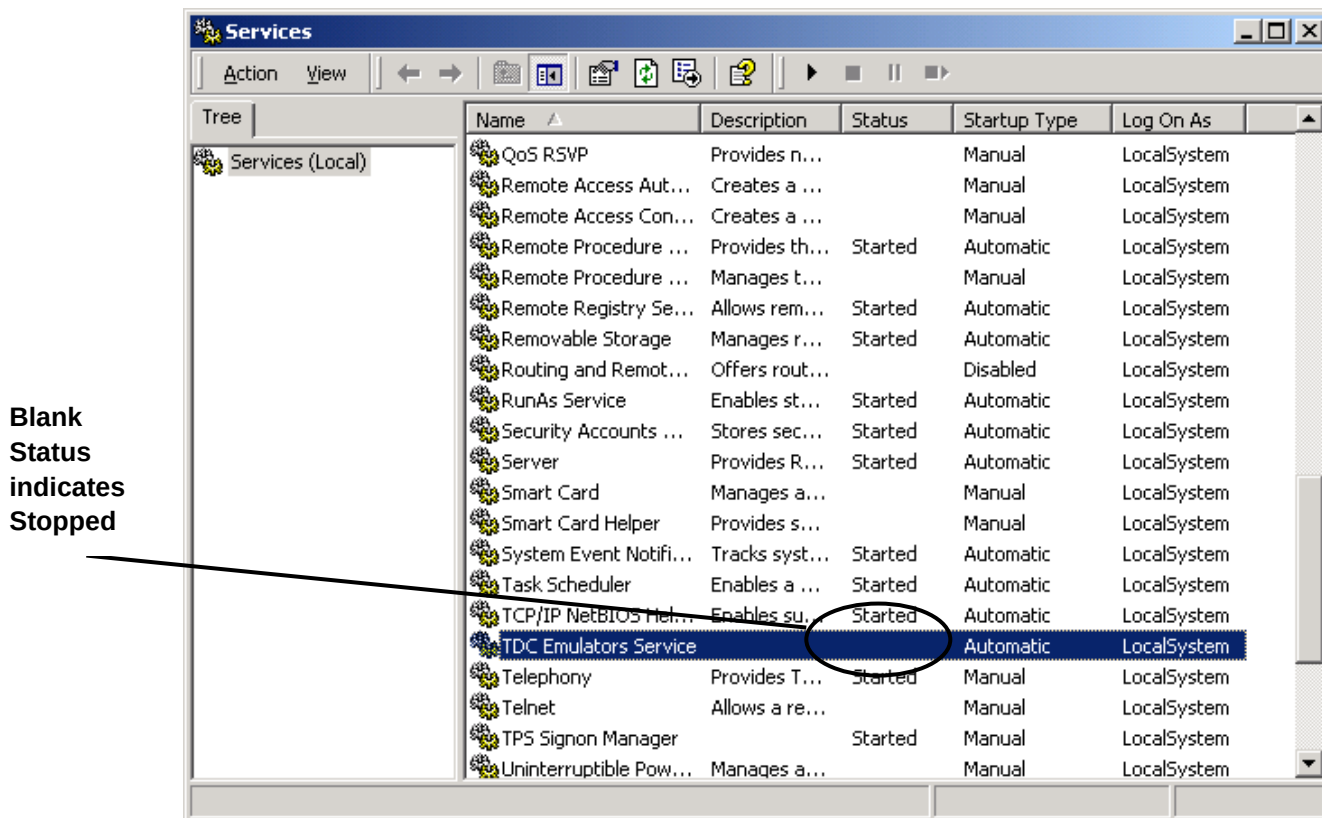

Figure 2.4-1 TDC Emulators Service Stopped
2.4.3	Select Services and in the Services window, scroll down until the TDC Emulators Service appears. See Figure 2.4-1 below.
2.4.12	Select Services and in the Services window, scroll down until the TDC Emulators Service appears. See Figure 2.4-1 previously.
2.5.6	Select the RESET LCNP and Yes to reset the LCNP card. See Figure 2.4-1.